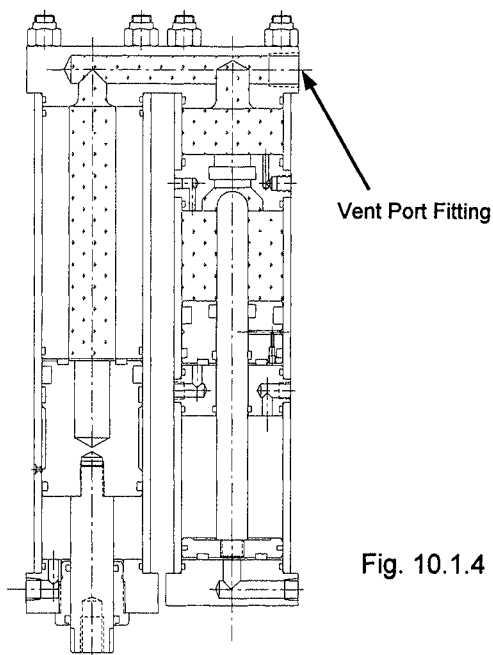

Fig. 10.1.4
1. Position cylinder as shown in Fig. 10.1.4.